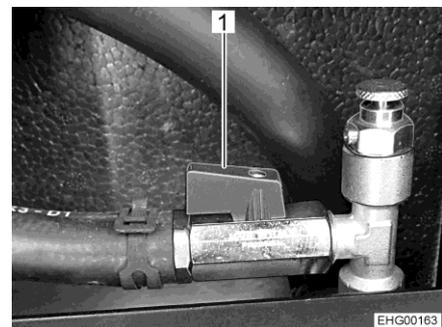

Fig. 171 Spherical valve (opened)
- Set the lever (Fig. 171,1) parallel to the pipe.